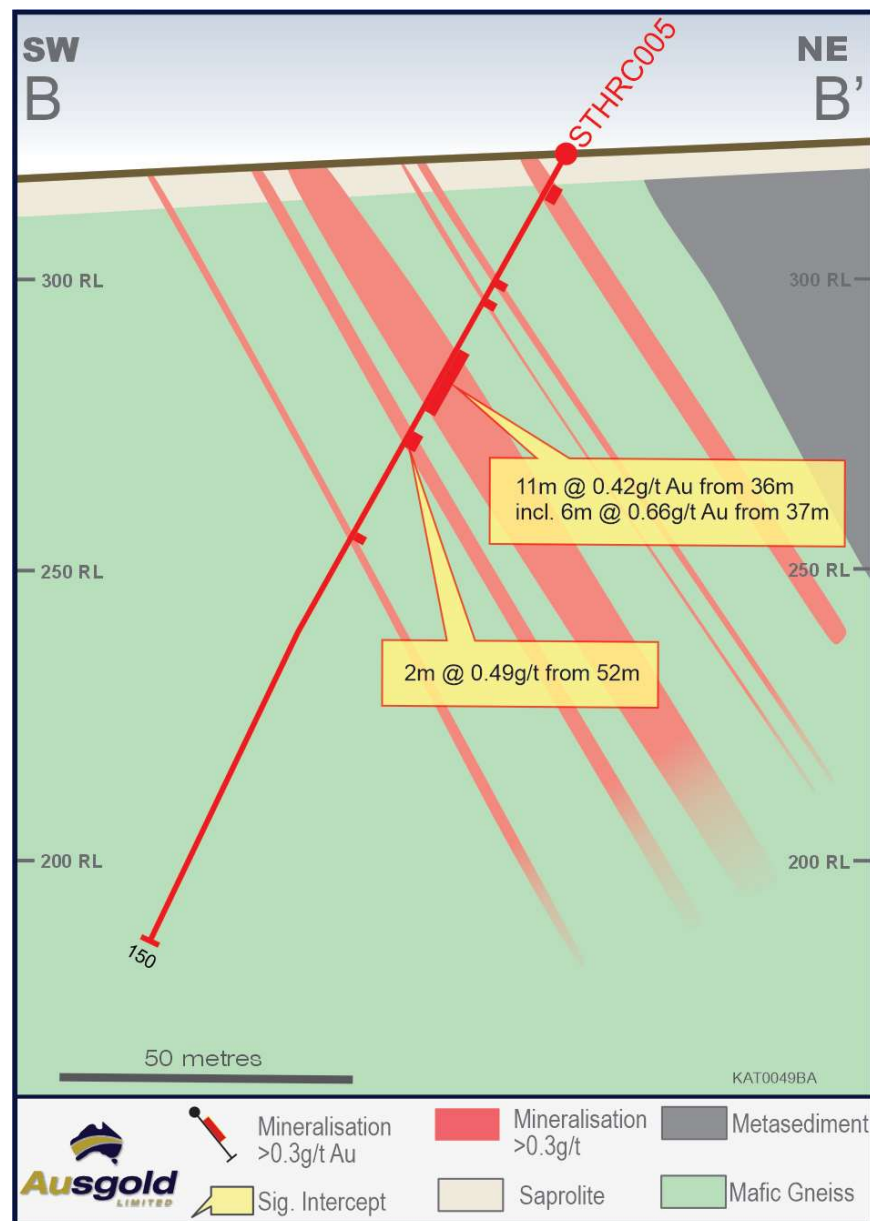

Figure 8 – Cross Section A-A' through Stanley Hill highlighting new drilling and results
- 11m @ 0.42g/t Au from 36m including 6m @ 0.66g/t Au from 37m in STHRC005 (Figure 8)